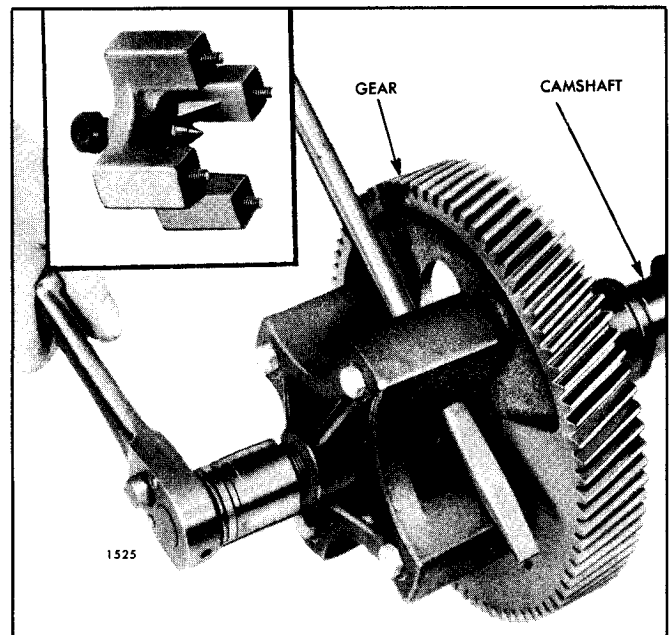

Fig. 3 - Removing Camshaft Gear with Tool J 1902-01
9. Install the camshaft gear puller J 1902-01, four spacers J 6202-2 and camshaft gear puller adaptor plate J 6202-1 on the camshaft gear (Fig. 3).